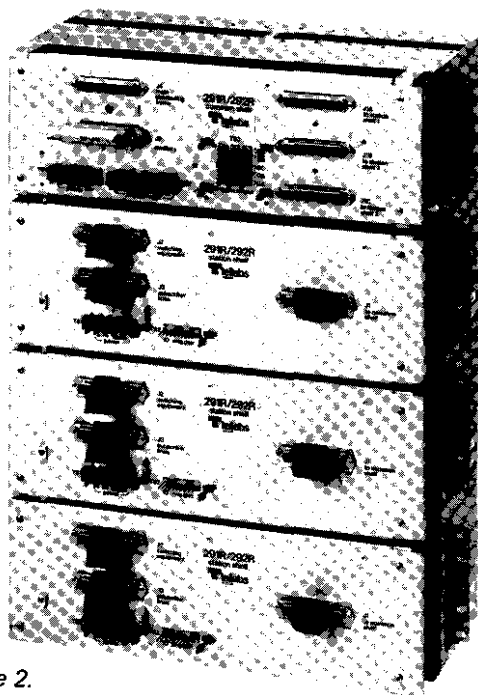

figure 2.
1.05 Designed for either central-office or PBX-equipment-room installation, the 292R System mounts in either a 19- or 23-inch relay rack. In CO applications, all cabling between the System's equipment shelves, as well as cabling from shelves to office distributing frames, is simplified by connectorized cables that plug into connectors on the backplanes of the System's equipment shelves (see figure 2). For PBX-equipment-room applications, cabling between the equipment shelves and from the shelves to USOC (Universal Service Order Code) connectors (network interface connections) is similarly simplified by connectorized cable adapters that plug into connectors on the backplanes of the System's equipment shelves. Cable adapters that conform to the USOC RJ21X format are used for connections from the 292R's manual, automatic, and remote-access ports to the PBX. Cable adapters that conform to the USOC RJ71C format are used for connections from the 292R's line circuit modules to their associated PBX conference stations.